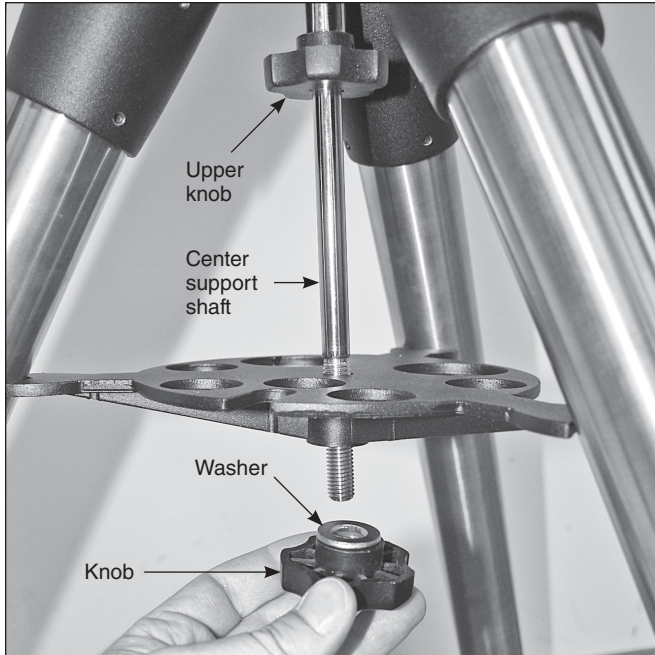

Figure 4. Installing the tripod leg spreader, which doubles as an eyepiece/accessory tray.
1. Remove the knob and washer from the bottom of the center support shaft. Slide the tripod support tray up the bottom of the shaft until the three tray arms are touching the legs of the tripod. The flat side of the support tray should be facing up. Make sure the "V" of each tray arm is against a tripod leg. Place the washer on the center support shaft against the tray, and follow it by threading the knob all the way up the center support shaft until it is tight against the tray (**Figure 4**). The tripod support tray provides additional stability for the tripod, and holds up to five 1.25" eyepieces and two 2" eyepieces.